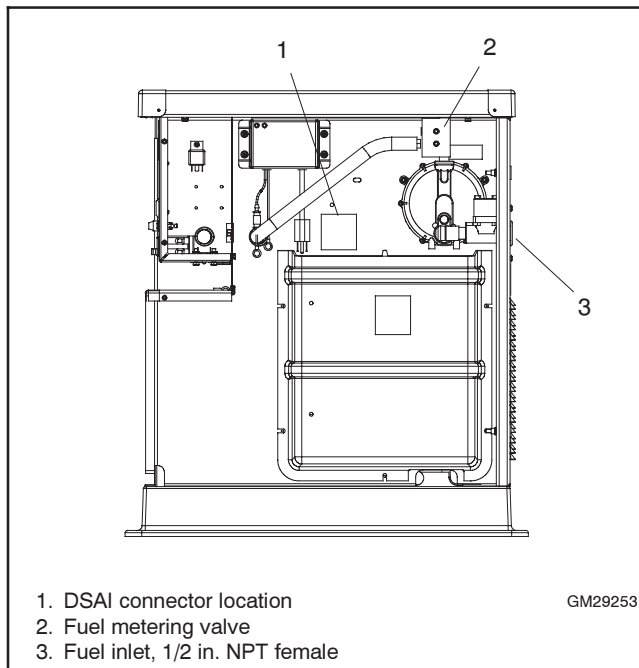
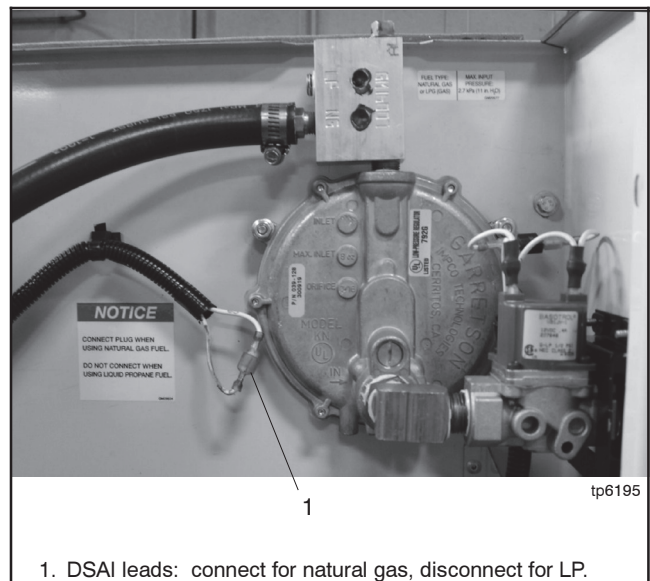

Figure 6-36 Generator Set Fuel System Location, Air Inlet Side
Figure 6-37 Digital Spark Advance Ignition Leads (12kW only) (located in generator set air intake area)
Use the following procedure to convert from natural gas to LP vapor. See Figure 6-36 for the fuel system component locations.
10. For 12 kW models only: Connect the digital spark-advance ignition (DSA) leads together for natural gas. (Disconnect the leads for LP.) See Figure 6-37.
To convert from LP vapor to natural gas, follow the same fuel conversion procedure, moving the hose fitting to the natural gas port and plugging the LP port. For the 12kW model, disconnect the DSAI leads for LP vapor. See Figure 6-37.
The digital spark advance ignition (DSAI) on the Model 12kW optimizes the engine timing for the selected fuel, natural gas or LP. The location of the DSAI leads is shown in Figure 6-36. Connect the DSAI leads in the air intake compartment together for natural gas fuel. Disconnect the leads if LP is used. See Figure 6-37.
The fuel metering valves are sealed to prevent field adjustments. If the fuel metering valve requires adjustment, do not break the seals on the fuel metering valve. Obtain a new fuel metering valve from the manufacturer and replace the sealed valve with the new part. See Figure 6-36 for the fuel metering valve location. Refer to the generator set Parts Catalog for the fuel metering valve part number.